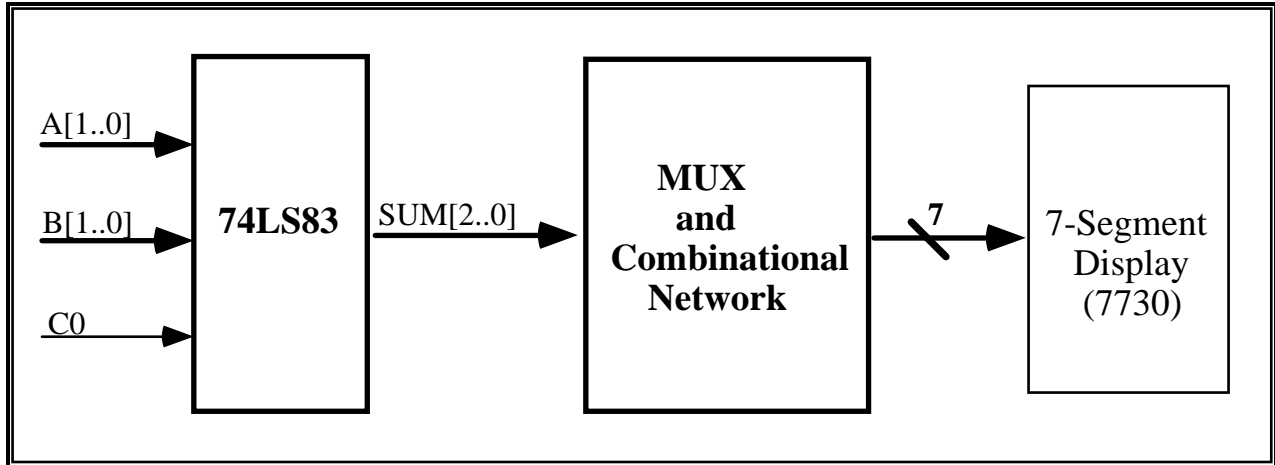

Figure 1: Part I Block Diagram
- a) For this part, the 7483 4-bit adder will be used to add two 2-bit numbers and a 1-bit number to produce a 3-bit output as shown in Figure 1. (You will need to use the carry-in bit, C0.) Design a combinational logic network which accepts the 3-bit output from the adder and drives a 7-segment display such that the result is displayed in decimal (0-7).